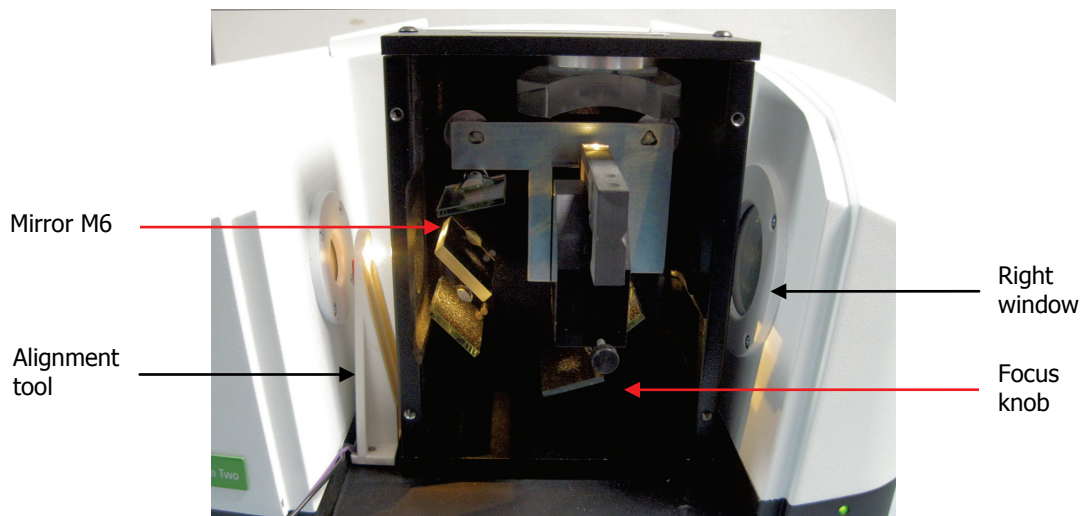

Figure 10 Alignment tool in position on the Diffuse Reflectance Accessory baseplate (accessory front plate removed)
7. Insert the alignment tool in position on the baseplate (Figure 10).